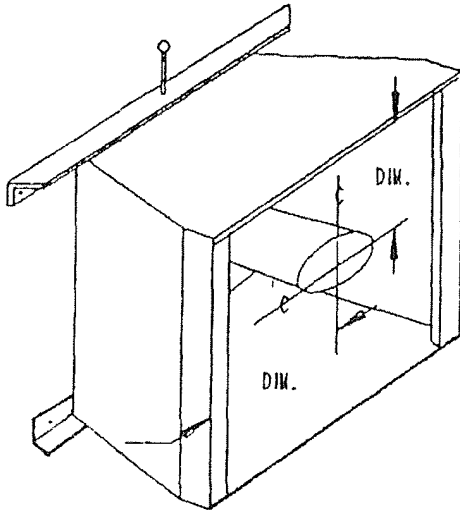

FIGURE 6
5. Next, remove the four (4) screws holding the heater to the stand. Position heater out of the way of the installation area.
6. Obtain pedestal stand and turn over. Measure the distance from the front or the rear and the sides of the bottom edge of the pedestal (whichever you used as the reference in marking stand location on the pad) to the center of the round duct portion of the pedestal stand. (See Figure 6).